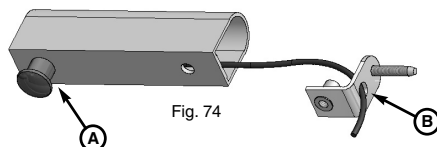

Fig. 74
- Insert the beam cable of the photocell into the appropriate hole **A** of the aluminium extruder, then introduce it into the canalisation through hole **B** of the support plaque. Insert the body of the beam into hole **A** until the head end of the beam rests against the aluminium surface (**Fig. 74**)